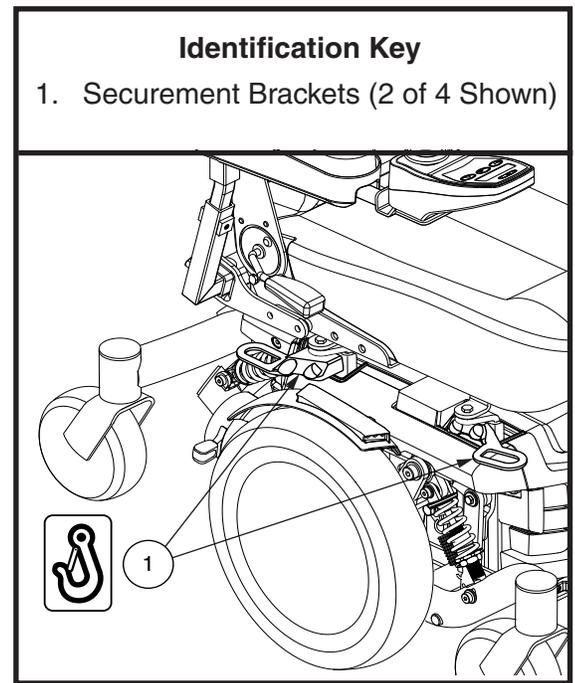

Figure 11. Transit System Securement Brackets
If your power chair is equipped with a transit securement system, it is equipped with manufacturer-installed front and rear securement brackets and positioning belt anchoring brackets. **See figure 11.** Refer to the supplement provided with your power chair for information on how to use the transit securement system.
- Attach the four tie-down straps to only designated, labeled transit securement points indicated by anchor symbols on the power chair. **See figures 11 and 12.** Tighten the straps to sufficiently remove all slack.